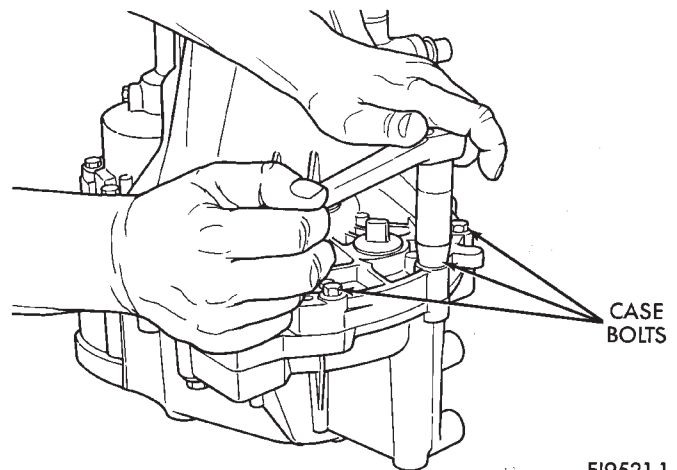

Fig. 39 Case Bolts
(1) Place transaxle on bench.
(2) Remove shift levers. Remove transaxle case half bolts (Fig. 39).